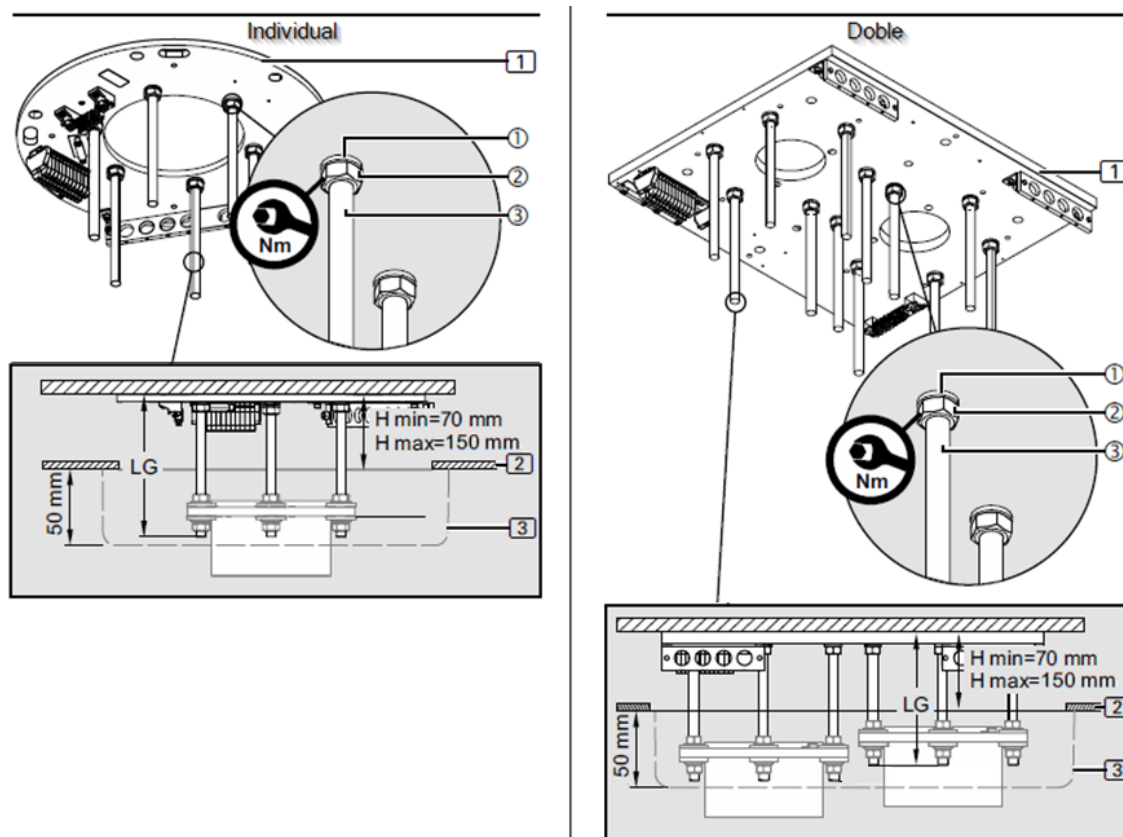

Fig. 9 Installation of interface plate with false ceiling
- Adjust the distance between the M16 hex nuts ② and the interface plate from 1 to 150mm.
- Using a digital spirit level, align the M16 hex nuts ② horizontally.
- Fit 1 flat washer with an outer diameter of 34 mm (3).
- Place 1 plastic insulating disc (4) (as shown in figure 9) in such a way that the flat washer with an outer diameter of 34 mm (3) sits on the plastic insulating disc (4).
- Secure the plastic insulating disc (4) to the M16 threaded bolts (1) with adhesive or elastic tape.